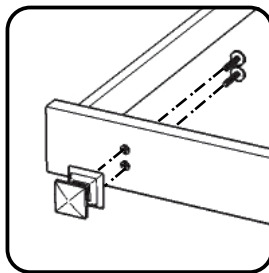

Figure 6
Attach Knobs to Keyboard Front (N) with Machine Screws (long). (See Figure 6)